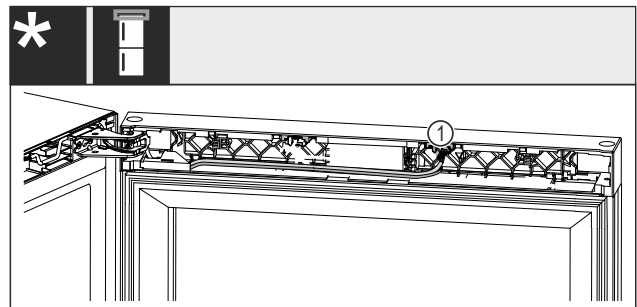

Fig. 22 Wine-freezer combinations*
- ▶ Pull the plug Fig. 22 (1) out of the retaining clip.*